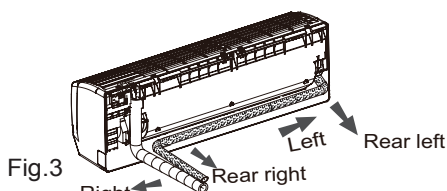

Fig.3
- (1) The pipe can be led out in the direction of (right, rear right, left or rear left). (As show in Fig.3)